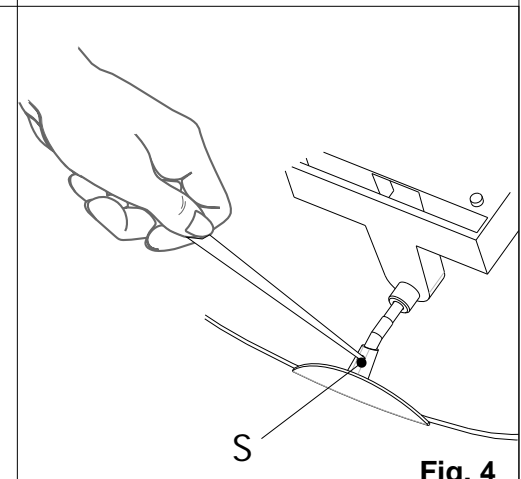

Fig. 4
- .11. **Fig.4.** Tighten the plastic screws “S” holding the shade in place without overtightening them.